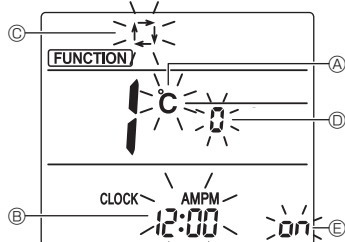

Fig. 7-10
3. Check that function No. "1" is displayed, and then press the **SET** button ③. The display setting screen will be displayed. (Fig. 7-10)